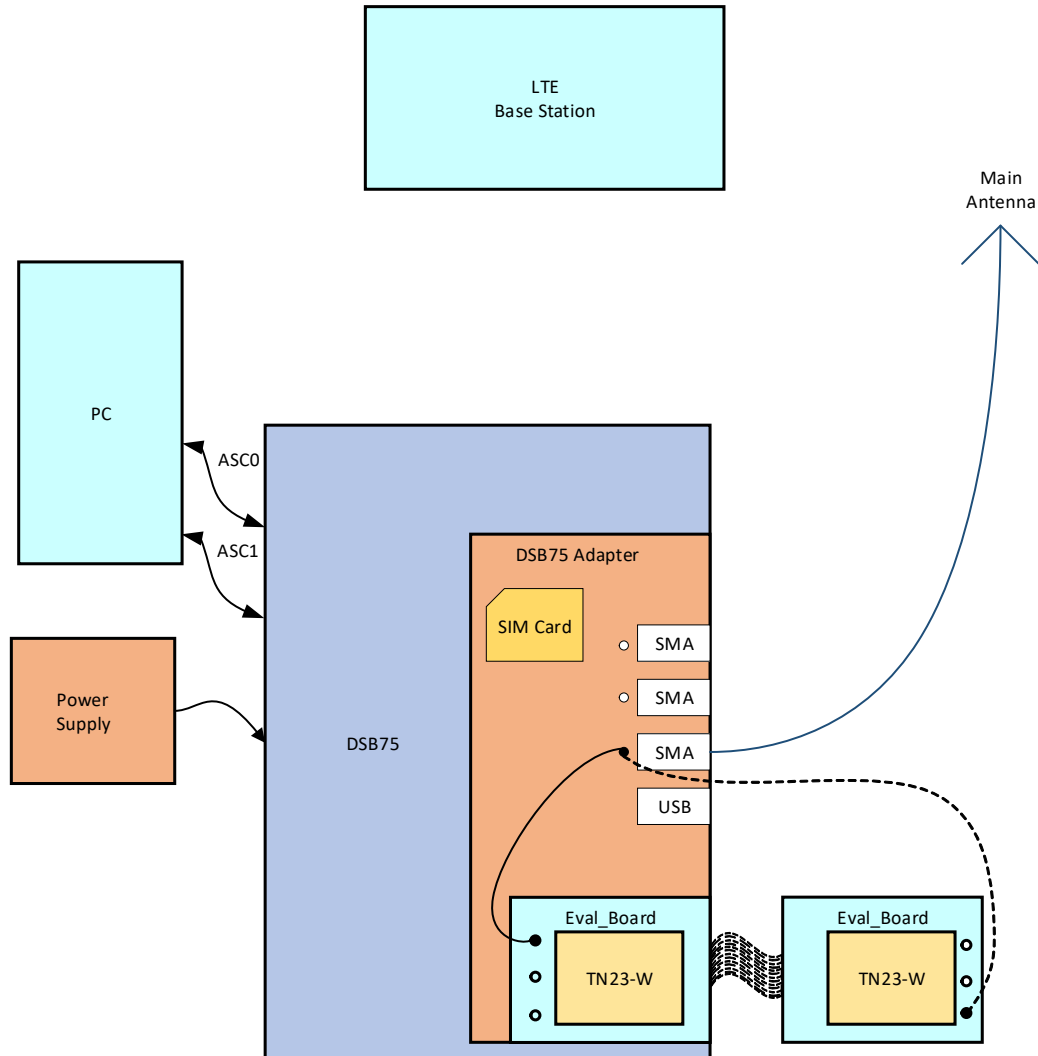

Figure 51: Reference equipment for type approval
5.3	Added Figure 51 showing reference equipment for TN23-W